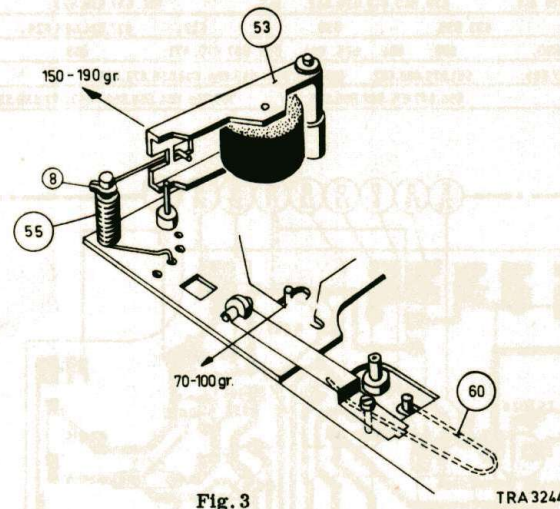

Fig. 3
Pressure roller lever (Fig. 3)
Checking the winding friction 63 (Fig. 3)
- If the current increase is less than 8 mA, the pressure of the pulley of idler bracket 63 onto the right-hand turntable must be reduced to min. 70 grammes (see Fig. 3). The pressure can be adjusted by slightly bending wire spring 60. If no current increase of 8-16 mA can be obtained in this way, the probable cause of the fault is: